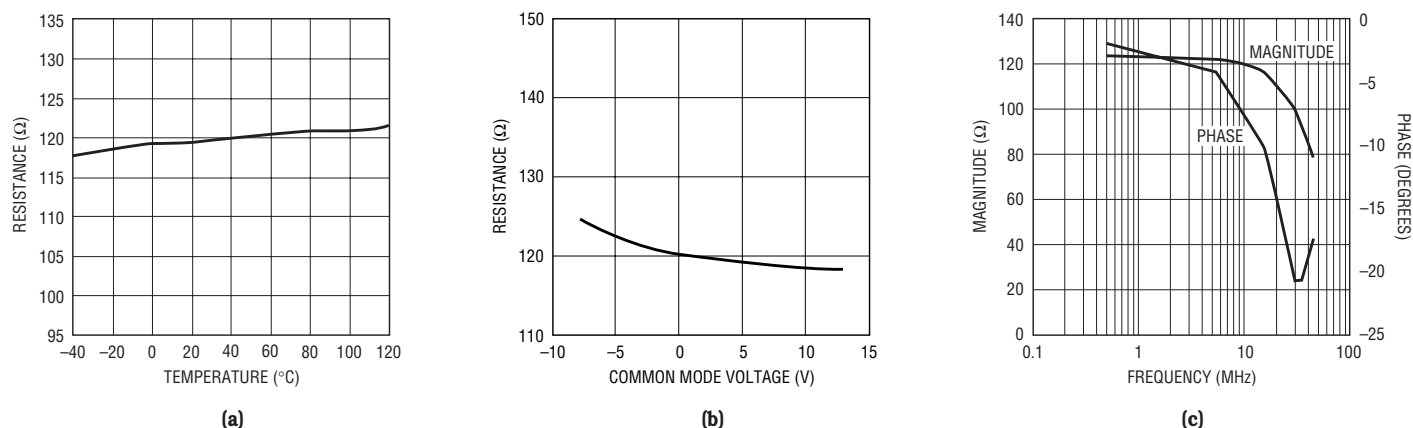

Figure 5. LTC2859 termination resistance vs temperature (a), common mode voltage (b), and frequency (c)
The termination resistor in the LTC2859 and LTC2861 is enabled by pulling the termination enable (TE) pin high. The resistor is disconnected when the termination enable is pulled to a logic low or the device is unpowered. Figures 5 (a), (b), and (c) show the resistance is maintained well over temperature, common mode voltage, and frequency.